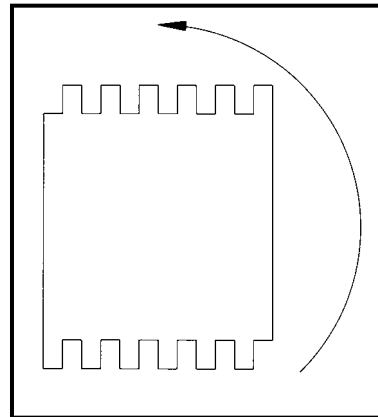

Fig. 21
3. Loosen front clamp, rotate material as shown in Fig. 21 and position up against templet and edge guide. Clamp securely in place and rout other end.